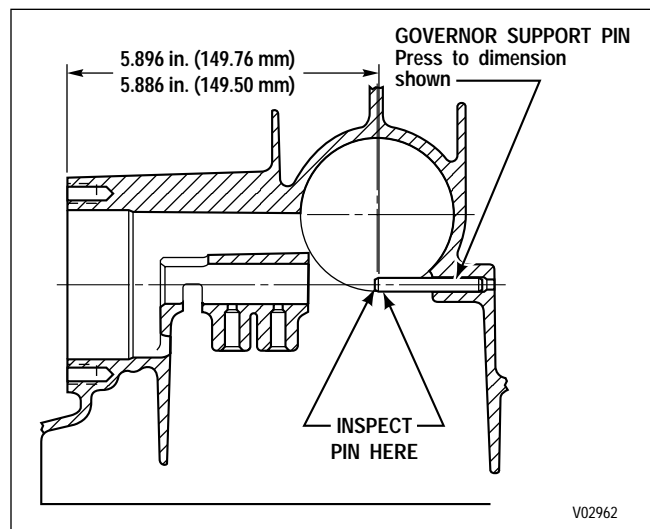

Figure 6-57. Governor Support Pin Location
(5) Inspect governor support pin 12 for evidence of wear. If any wear is noted on the end or on the OD of the pin, remove the pin using pin remover tool J 28708 (Figure 6-57).
(6) Inspect test plugs 8 and 13 (Foldout 12,A). Replace if damaged.
(7) If it is necessary to replace a damaged nameplate 5, remove one drive screw 4.
(5) If governor support pin 12 was removed, install a new pin using tool J 28684. If the tool is not available, install the pin to dimensions shown in Figure 6-57.
(6) Install 1/8 inch test plugs 8 and 13 (Foldout 12,A) into housing 11. Tighten the plugs to 48-60 lb in. (5.5-6.7 N·m).